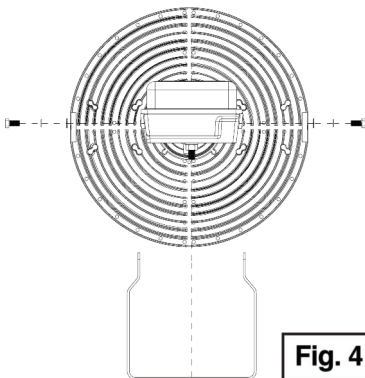

Fig. 4
- 1.) Install the yoke mount bracket onto the fixture with the two (2) hex head bolts, two (2) flat washers, and two (2) star lock washers (See **Fig. 4**).